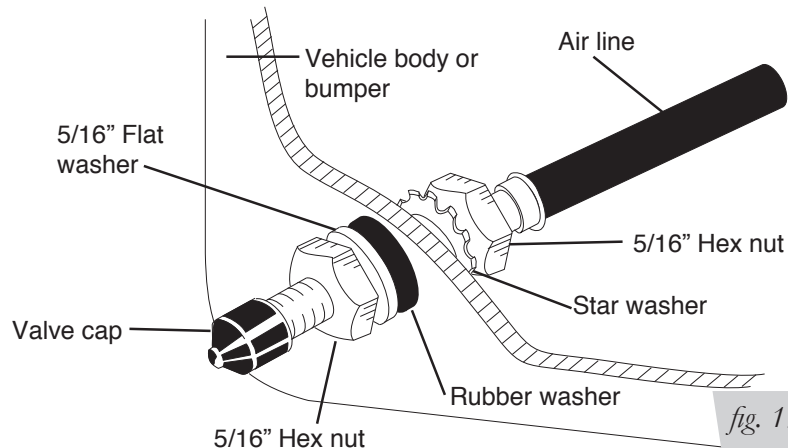

fig. 17
4. Place a 5/16" nut and star washer on the air valve. Leave enough of the inflation valve in front of the nut to extend through the hole and have room for the rubber washer, flat washer, and 5/16" nut and cap. There should be enough valve exposed after installation—approximately 1/2"— to easily apply a pressure gauge or an air chuck (fig. 17).